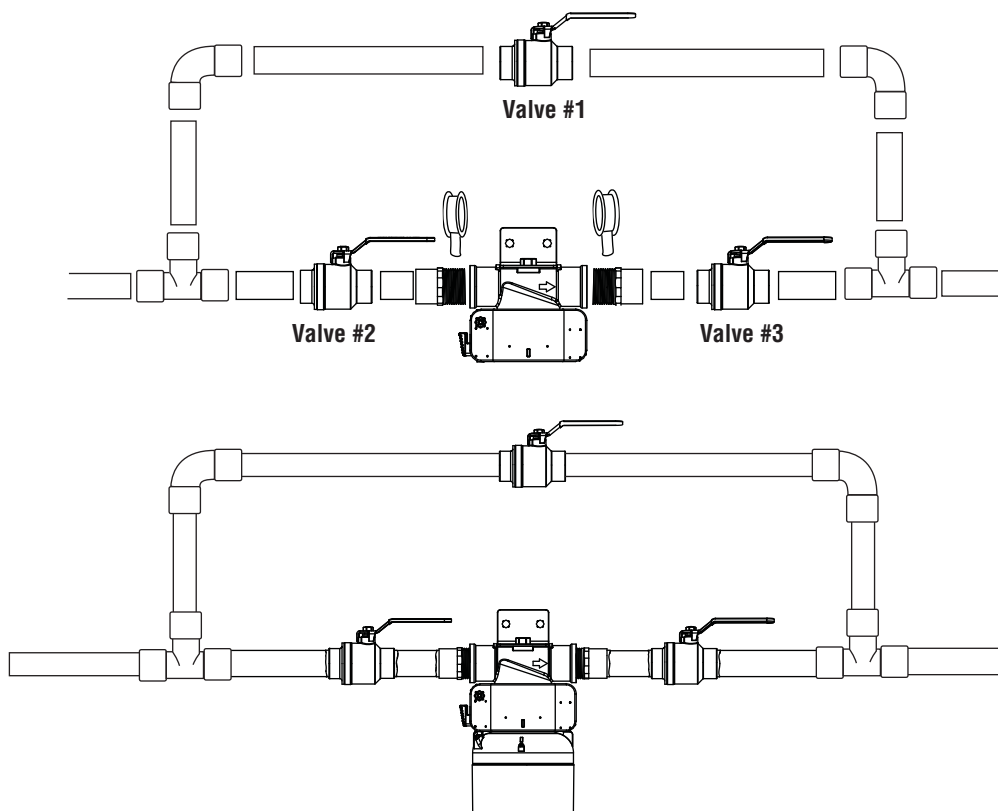

Figure 2
4. Assemble filter head on optional bypass system as shown in Figure 2. Use three ball valves and one filtration unit as shown. Use copper pipe and sweated connections to assemble system.
1. Close shut-off valve #2 (fig. 2) upstream of filter system, leaving downstream shut-off valve #3 (fig. 2) open.
3. Once filtration system has been depressurized, close the downstream shut-off valve #3 (fig. 2).
7. Slowly open upstream shut-off valve #2 (fig. 2) until filtration system fills with water. Slowly open downstream shut-off valve #3 (fig. 2). Flush at least ten (10) gallons through system before use.